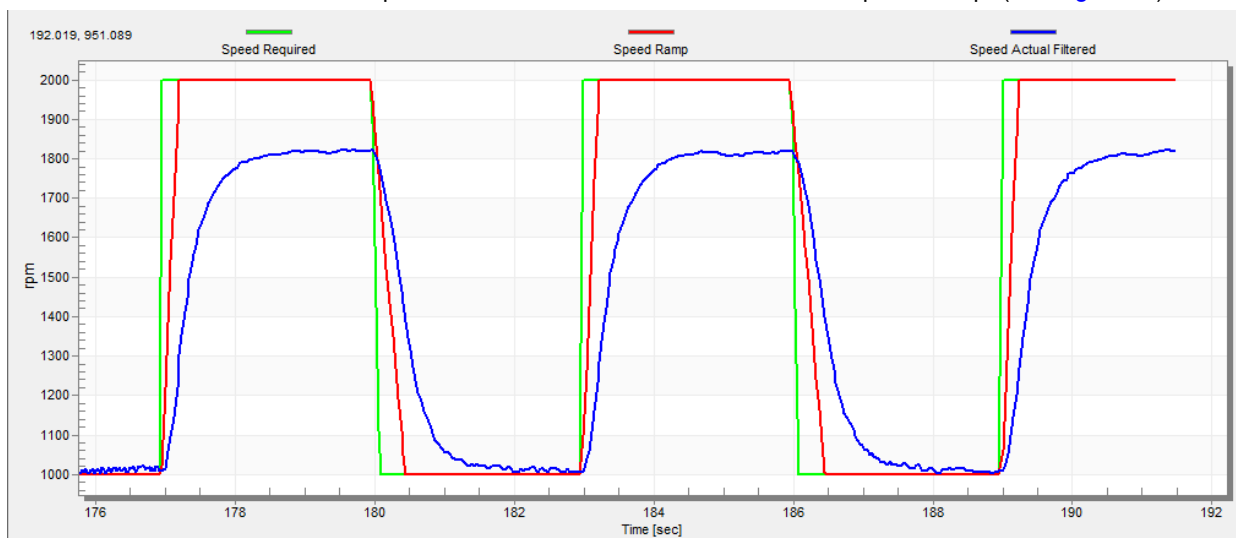

Figure 55. Speed controller response—SL_Ki value is low, Speed Ramp is not achieved
The motor speed control loop is a first-order function with a mechanical time constant that depends on the motor inertia and friction. If the mechanical constant is available, the PI controller constants can be tuned using the loop bandwidth and attenuation. Otherwise, the manual tuning of the P and I portions of the speed controllers is available to obtain the required speed response (see the example response in Figure 55). There are dozens of approaches to tune the PI controller constants. The following steps provide an approach to set and tune the speed PI controller for a PM synchronous motor:
- The “SL_Ki” value is low and the “Speed Actual Filtered” does not achieve the “Speed Ramp” (see Figure 55).